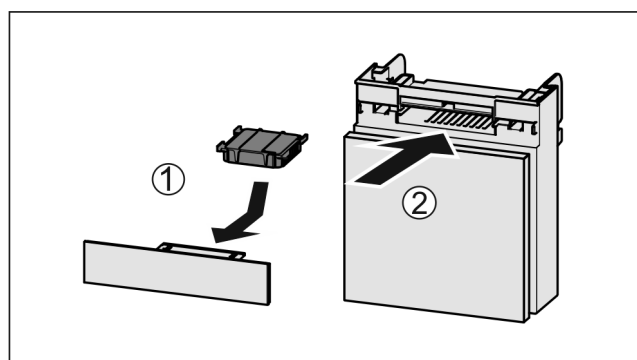

Fig. 136
- Insert the carbon filter as shown in the diagram Fig. 136 (1).
- Push the compartment in Fig. 136 (2).